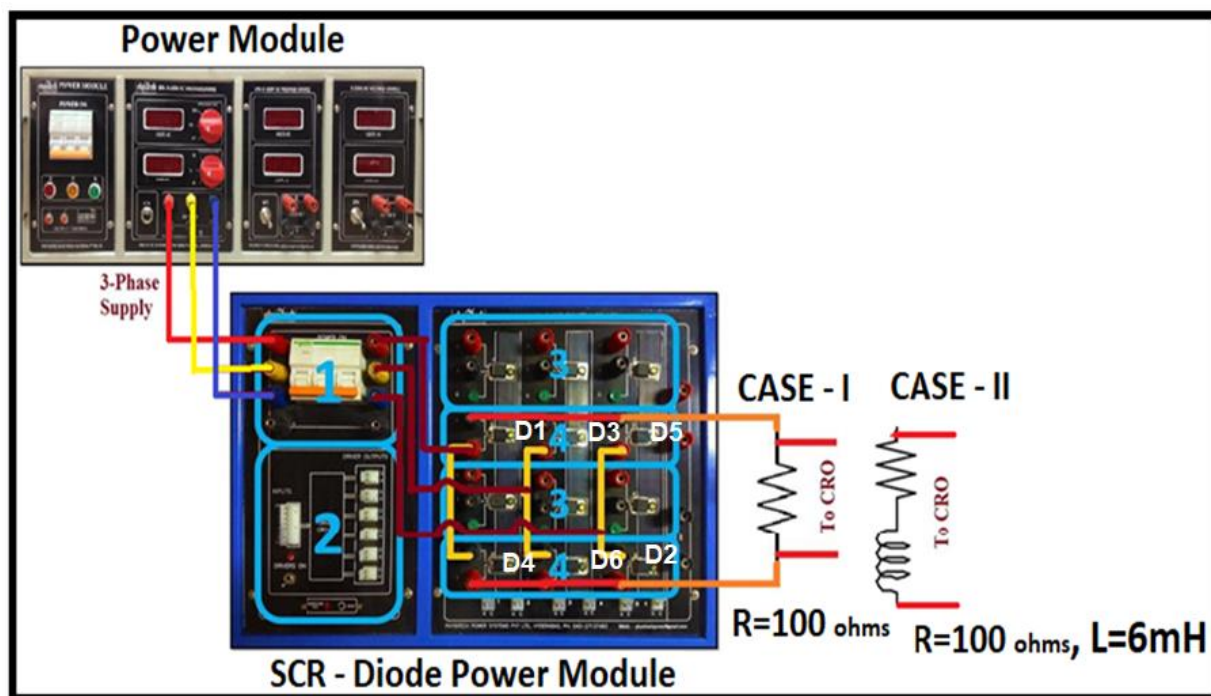

Fig. 3 Hardware implementation of 3-phase diode bridge rectifier
1. Connect the circuit as shown in Fig.3 ( R load ( $R=100\text{ ohms}$ ) shown as Case - I
1. Connect the circuit as shown in Fig. 3( RL load ( $R=100\text{ ohms}$ ,  $L=6\text{mH}$ )) shown as Case - II,